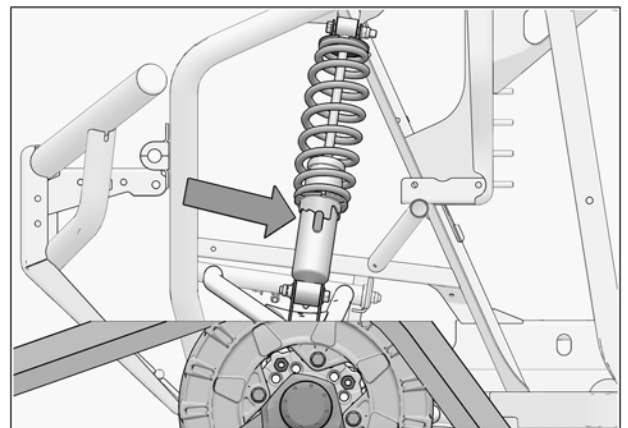

Fig. 22
1. Verify suspension settings. If the shock absorbers are adjustable, adjust them to the stiffest setting to allow for maximum clearance between the System and the vehicle's fenders. See Fig. 22